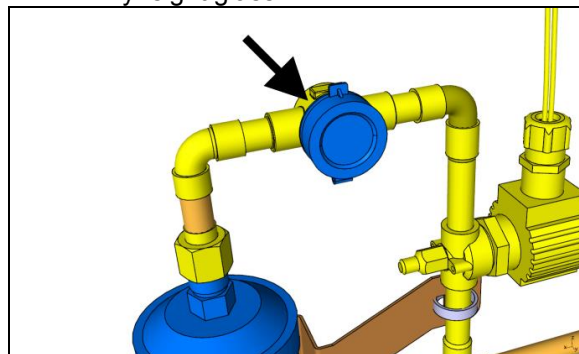

FIGURE 79: MOISTURE INDICATOR SIGHT GLASS
- 2- With the AC on for at least 10 minutes, the moisture indicator sight glass (FIGURE 79) should be clear, not milky, without bubbles in the stream of refrigerant. Bubbles in the moisture indicator sight glass are sign of refrigerant low charge. The filter-dryer nearby should be near constant temperature, less than 5°F differential between inlet and outlet. A partially blocked filter will make some flash gas and give a "milky" sight glass.